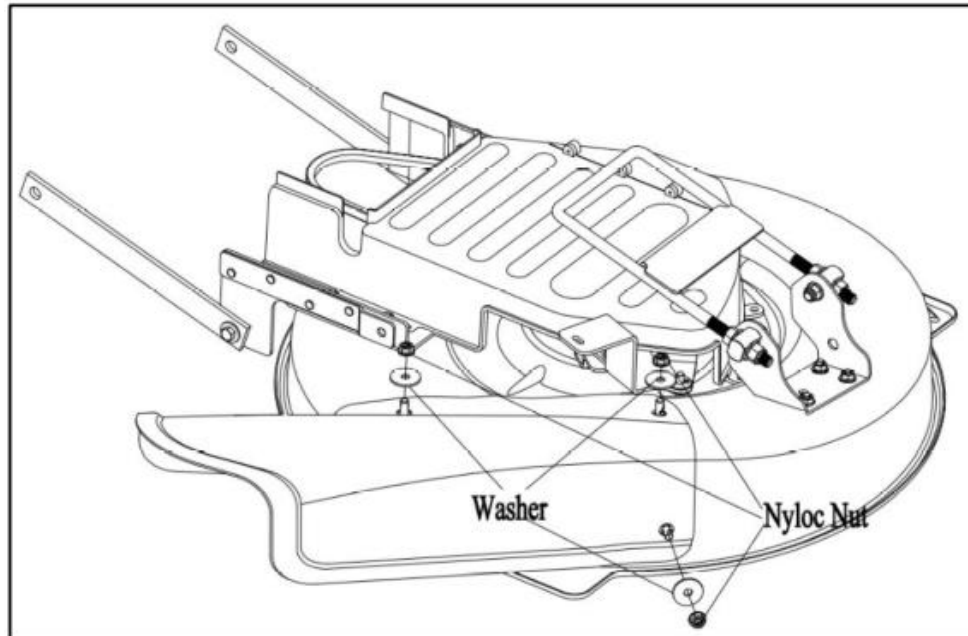

Figure 9
- 3) Mount the side discharge chute on to the same bolts that secured the rear discharge pipe assembly(Figure 9) .